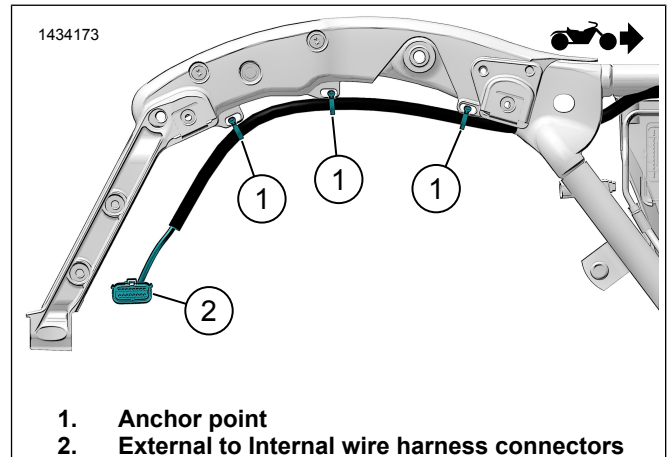

Figure 17. External Wire Harness Routing (Typical)
- a. See Figure 17. Using cable straps loosely install harness to anchor points (1). Do not tighten cable straps.
- d. Connect negative battery wire (2).
- e. Connect positive battery wire (4).
- f. Install fuse (4) into fuse holder (3).
- g. Secure fuse holder (3) with cable strap.
- h. Route connectors (1) toward left side cover area and connectors (5, 6) toward the right side cover.
2. See Figure 17. Connect external saddlebag harness to internal harness (2) to saddlebag.